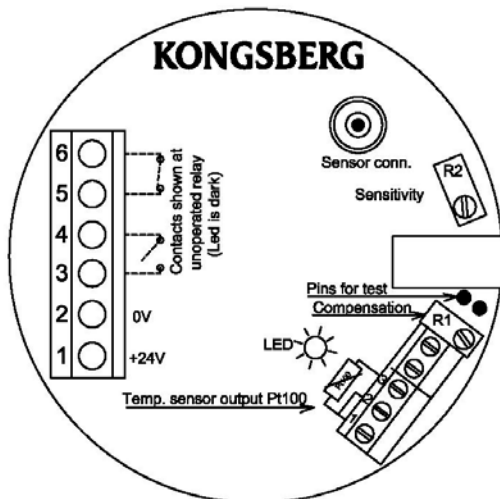

Fig. 2 Electrical connection
- 3) With the sensor tip wet, perform functional test by shorting the test pins (Fig. 2).